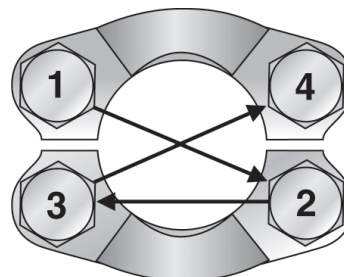

Fig. R10 – Flange Bolt Tightening Sequence
6. Torque bolts in diagonal sequence (see Fig. R10) in small increments to the appropriate torque level listed in Table R6 or R7 below.